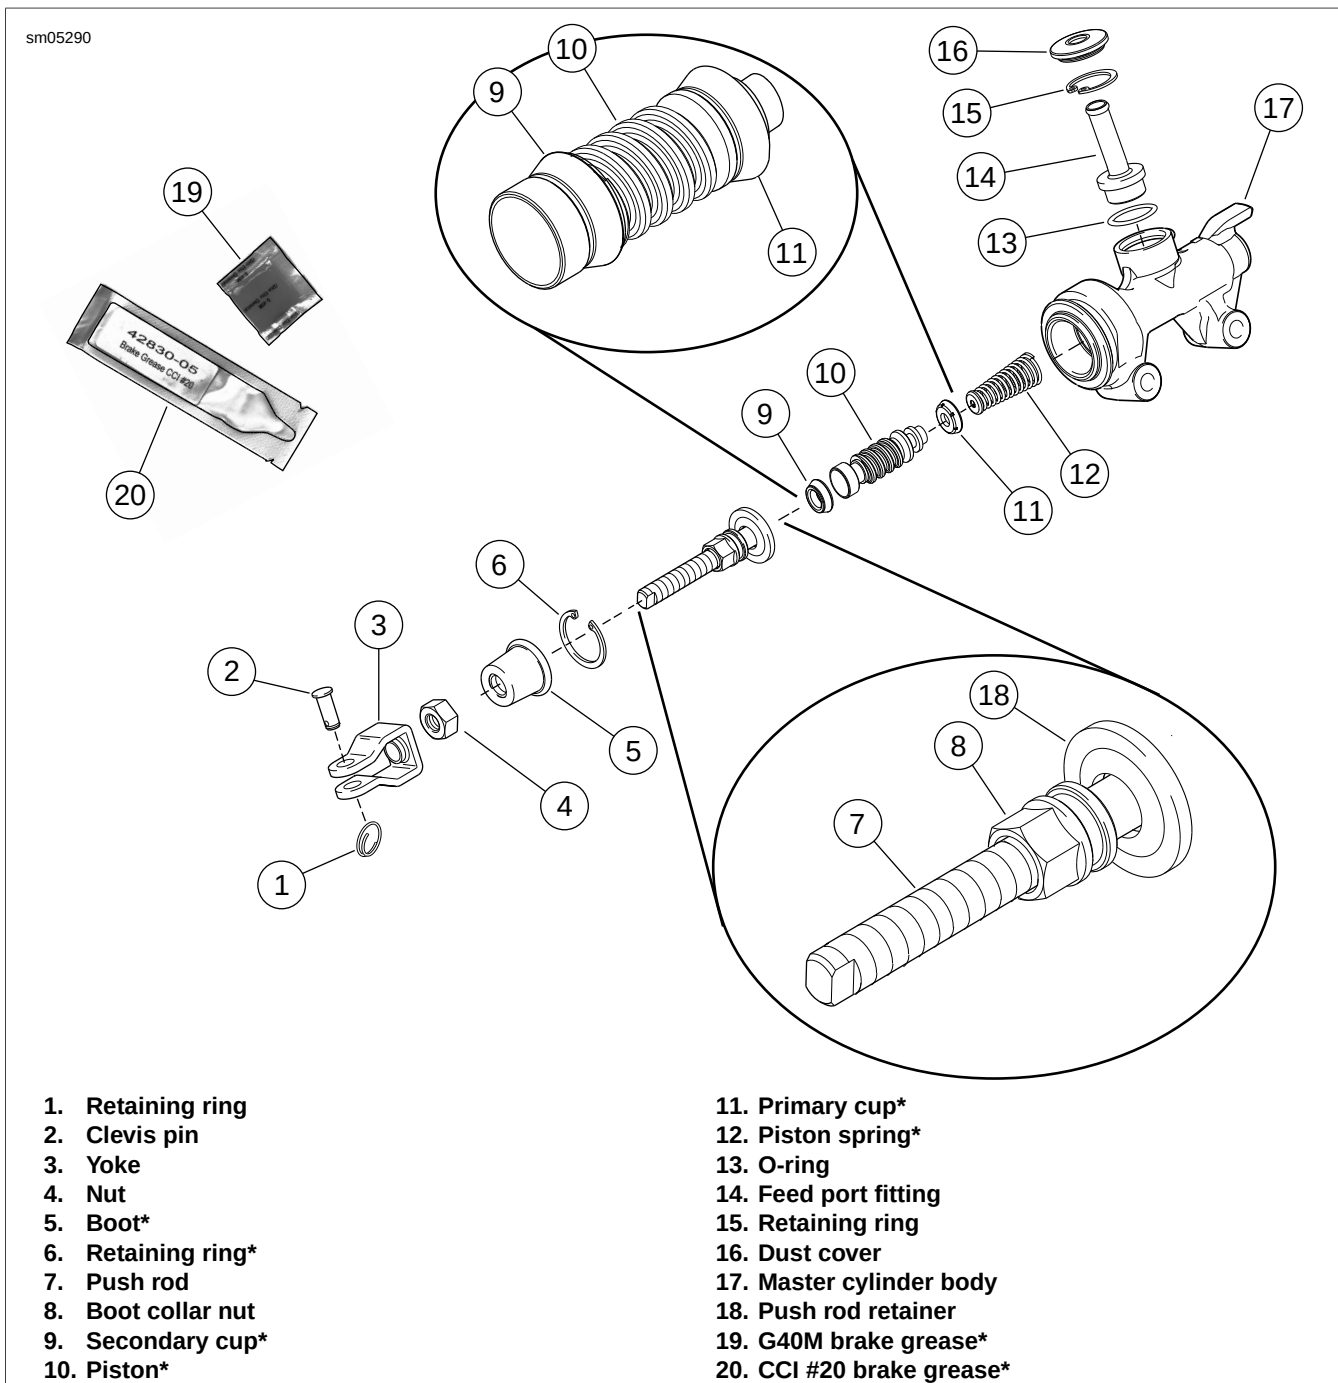
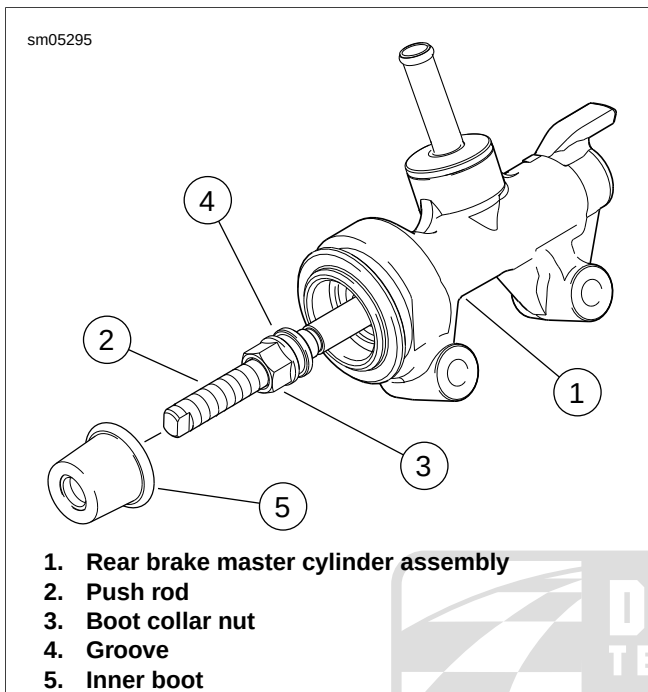

Figure 2-112. Rear Brake Master Cylinder (*Provided in Service Parts Kit)
Figure 2-114. Lubricating and Installing Inner Boot
- See Figure 2-112. Clamp rear brake master cylinder in a vise with yoke (3) pointing up.
- See Figure 2-112. Remove nut (4) from push rod.
- Remove and discard boot (5).
1. See Figure 2-112. Thoroughly clean master cylinder body (17) and all brake system components. Blow out drilled passages and piston bore in master cylinder body with low pressure compressed air from a clean air supply. Do
1. See Figure 2-112. Coat **new** o-ring (13) with HARLEY-DAVIDSON D.O.T. 4 BRAKE FLUID. Install o-ring and feed port fitting (14) into feed port on master cylinder body (17). Secure with **new** retaining ring (15). Verify that retaining ring is fully seated in groove.
2. Slide dust cover (16) onto feed port fitting and press into place in master cylinder feed port.
8. See Figure 2-112. Temporarily thread nut (4) onto push rod (7) several turns to protect push rod threads.
9. Insert push rod into master cylinder body. Press down on push rod to compress piston spring (12). Slide push rod retainer (18) down into master cylinder bore and hold in place.
10. Secure push rod assembly with **new** retaining ring (6). Verify that retaining ring is fully seated in groove. Remove nut (4) from push rod.
11. See Figure 2-114. Apply approximately 0.1 g of G40M BRAKE GREASE around groove (4) in boot collar nut (3). Carefully slide inner boot (5) down onto push rod (2) and into end of master cylinder bore. Press lip of inner boot down around groove in boot collar nut.
12. See Figure 2-112. Thread nut (4) onto push rod (7), several turns past flats.
13. Thread yoke (3) onto push rod, at least 2-3 turns past flats.